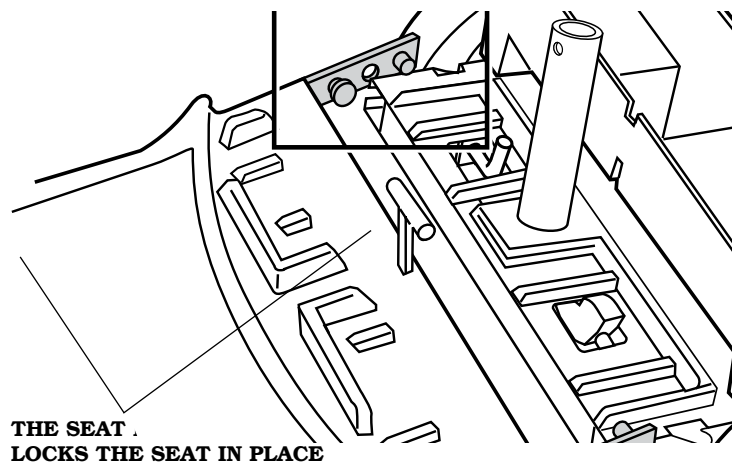

FIGURE 37. SEAT INSTALLED
3. Push down on the seat to make certain that the seat swivel post is fully inserted and locked. See figure 37.